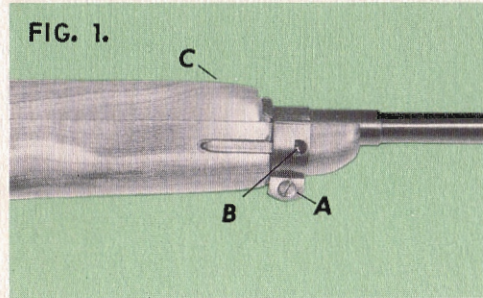
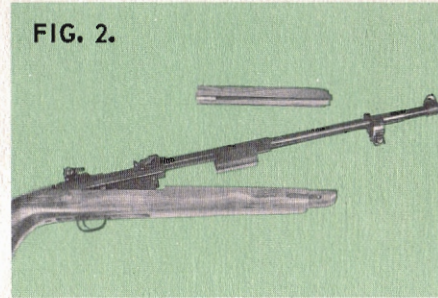

FIG. 1.
FIG. 2.
Remove magazine from trigger guard. Loosen Barrel Band Screw (A) Fig. 1. Do not remove. Depress Barrel Band Retainer (B) with narrow screwdriver to disengage notch from Barrel Band and slide Barrel Band forward by tapping lightly with hammer until Barrel Band clears Hand Guard (C). Grasp Barrel at forward end and pull from Stock. See Fig. 2.